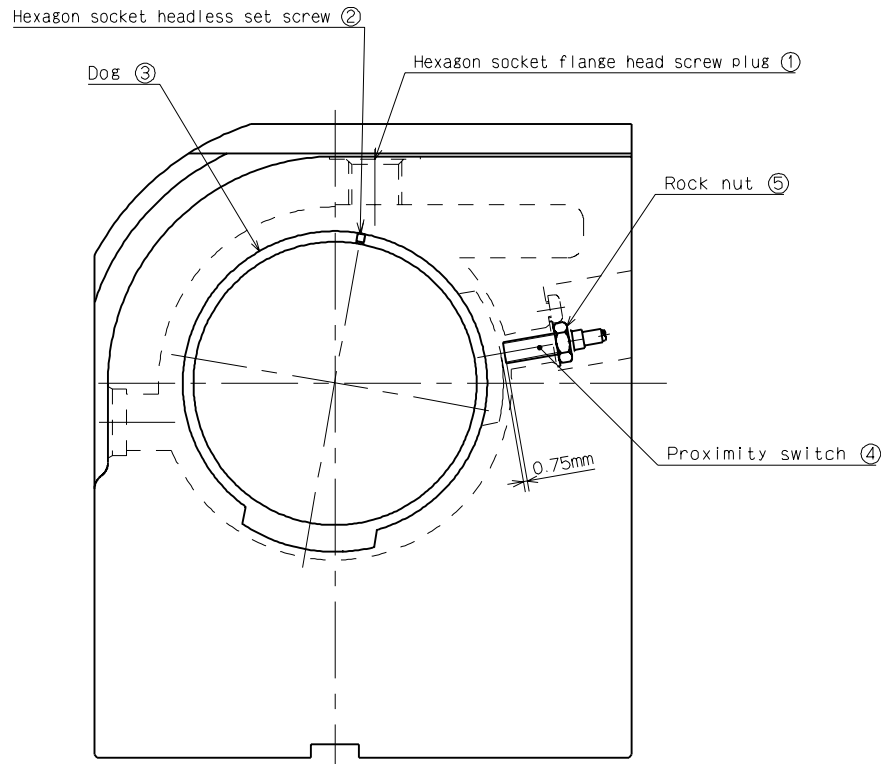

Fig. 4
### 9-2 ZRN device Adjustment (See Fig.4)
- 1) Proximity Switch (See Fig. 4)